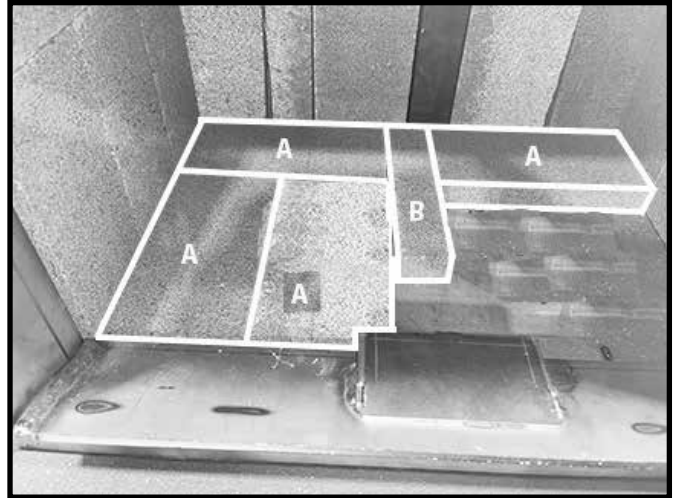

Figure 31: Left side A bricks.
7. Place two "A" bricks in front of the left side "A" brick located at the rear of the firebox floor and slide it back so that both "A" bricks are touching. (Figure 31).